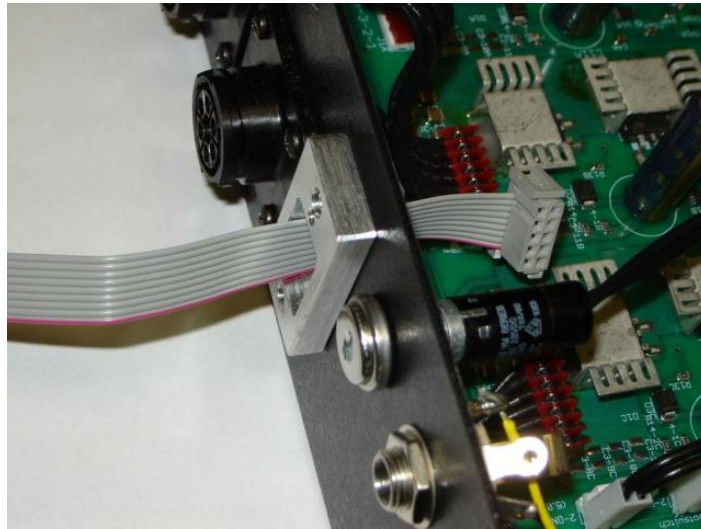

Figure 2
- 5) Thread the end of the cable with the small connector through the opening in the adapter block. See Figure 2.